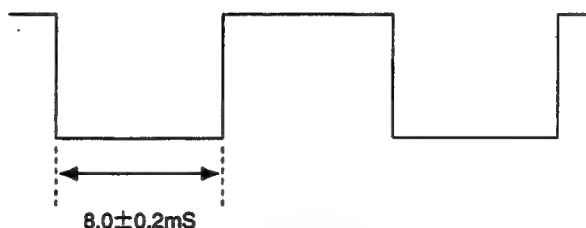

Fig.5-7
- 5) Connect the probe of an oscilloscope to IC502 ⑦ PIN. Adjust V DELAY so that the output waveform will be as shown in Fig.5-7.